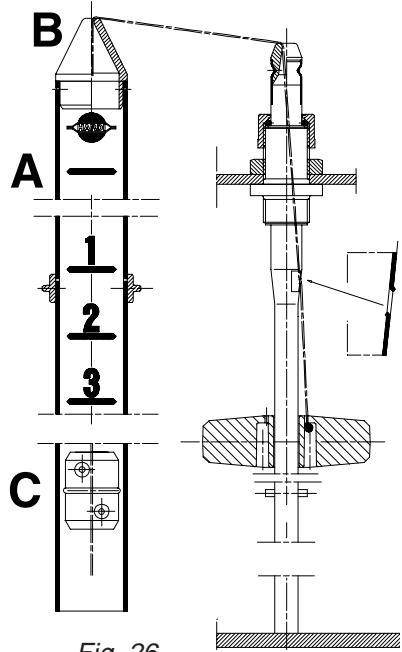

Fig. 26
The level indicator should be checked regularly. When the tank is empty, the floater should rest on the stop pin on the rod and the O-ring at the indicator should be positioned at the top position line (A) (Fig. 26).
If any deviation is found, pull out the plug (B) (Fig. 26), loosen the screws (C) (Fig. 26) and adjust the length of the cord.